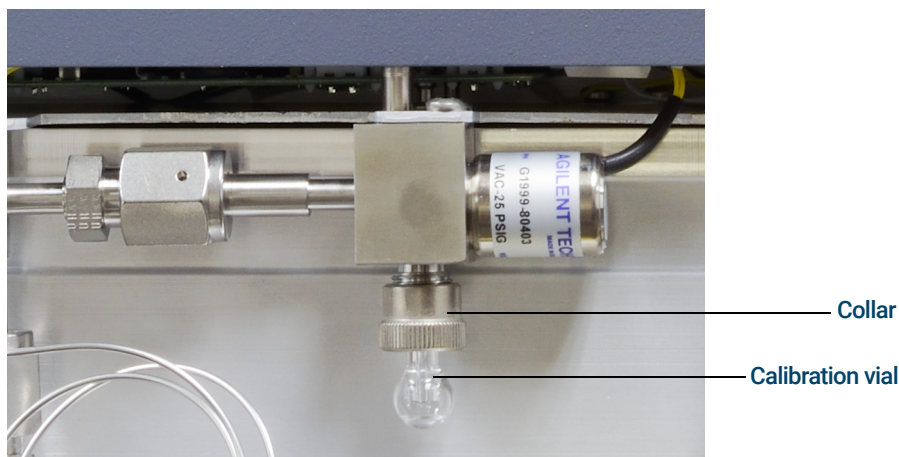

Figure 17. Removing the CI calibration vial
- 8 Turn the CI vial collar counterclockwise to loosen it (**Figure 17** on page 91). Do not remove the collar.